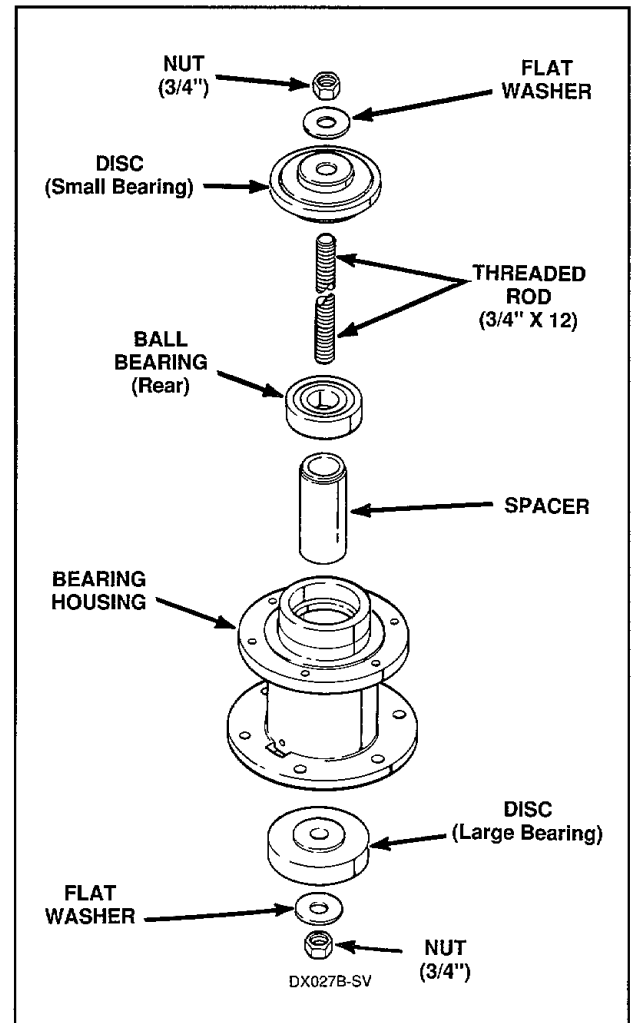

Figure 29
- Install bearing spacer and rear bearing on threaded rod. Reinstall small bearing disc, flat washer and nut on threaded rod, *Figure 29*.
- Tighten nuts on threaded rod; pulling rear bearing into bearing housing until it is snug against the bearing spacer, *Figure 29*.